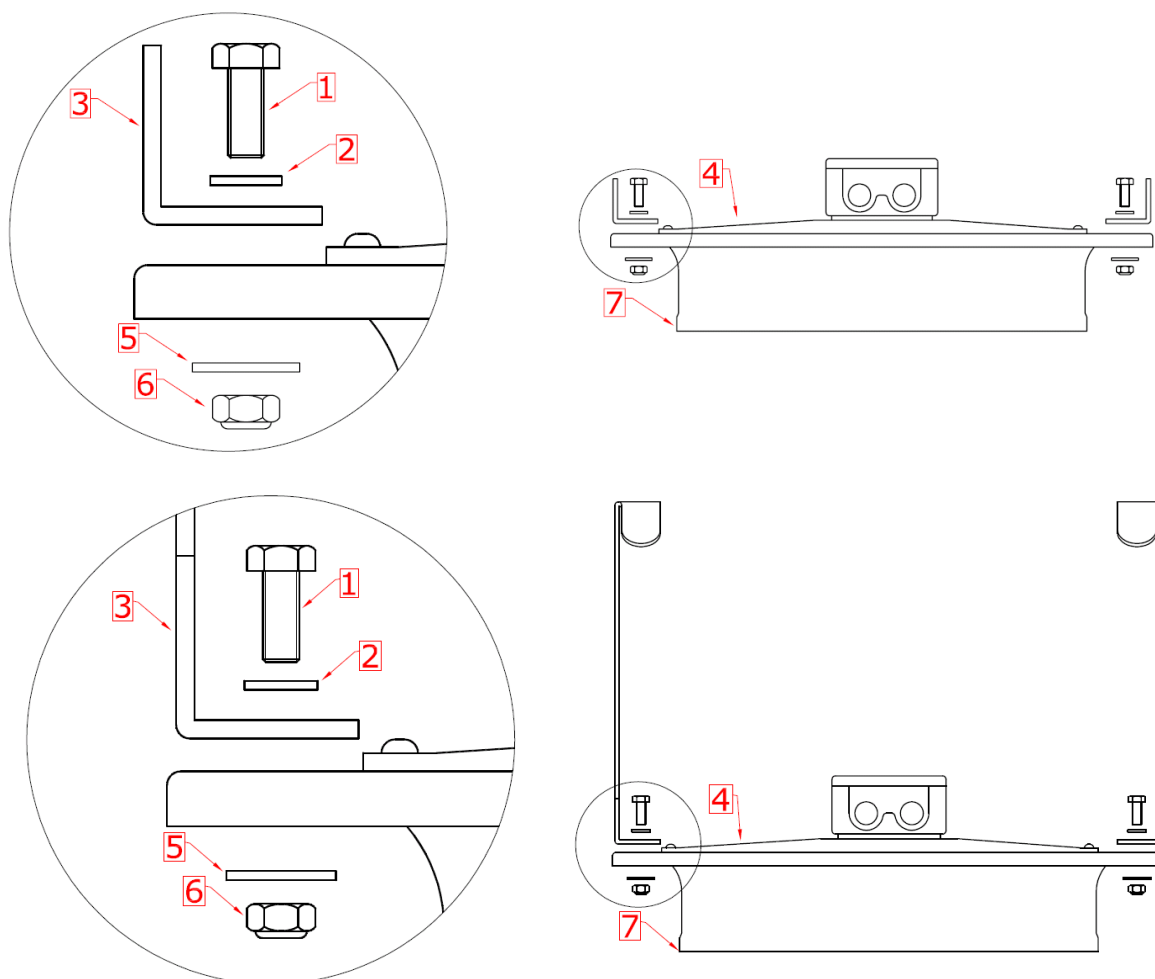

Figure 6 Mounting of the angle profiles to the lowering bracket
- Attach the two stainless steel angle profiles or lowering brackets (3);
- Using four stainless steel M8 x 20 screws (1), stainless steel M8 washers (2) stainless steel M8 bodywork washers (5) and stainless steel M8 self-locking nuts (6) on the suction side of the fan (4);
- See Figure 6.